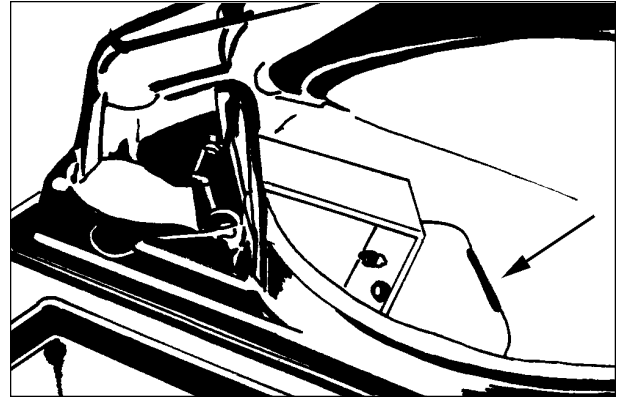

Figure 1
**The Float Shut-Off See figure 1**